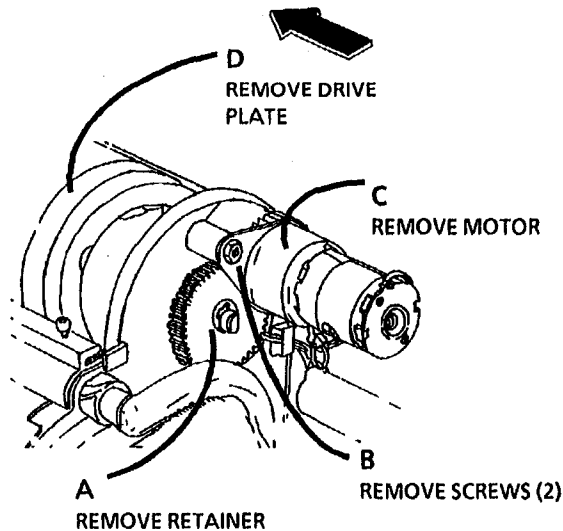

Figure 2. Remove the Cartridge Drive Plate
4. (Figure 2): Remove the Cartridge Drive Plate.